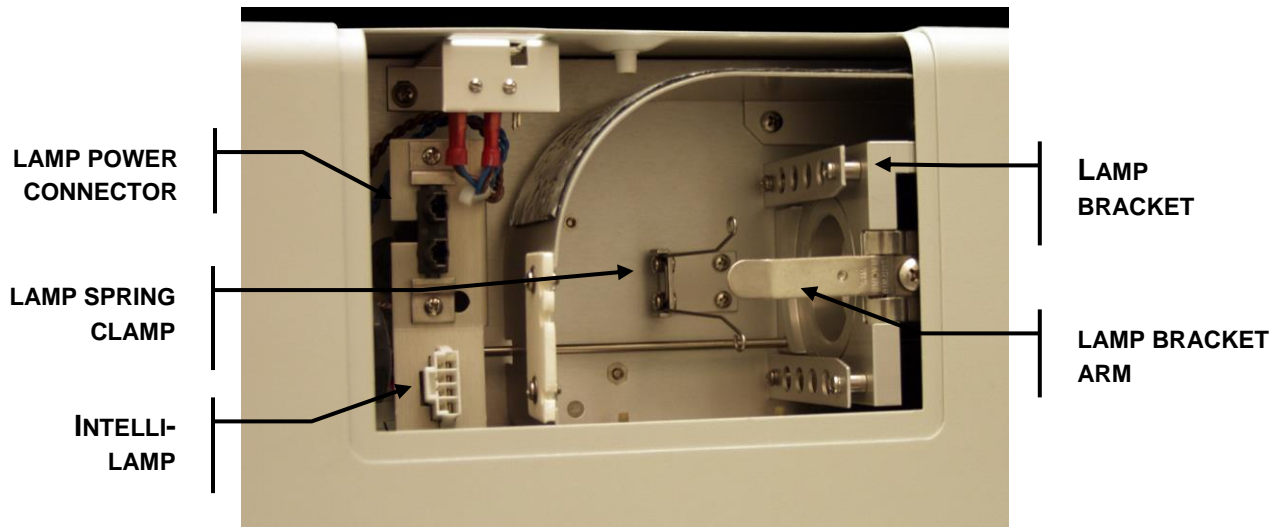

Figure 4 Lamp Housing
4.1.4 Open the lamp bracket arm by pulling towards you, refer to Figure 4